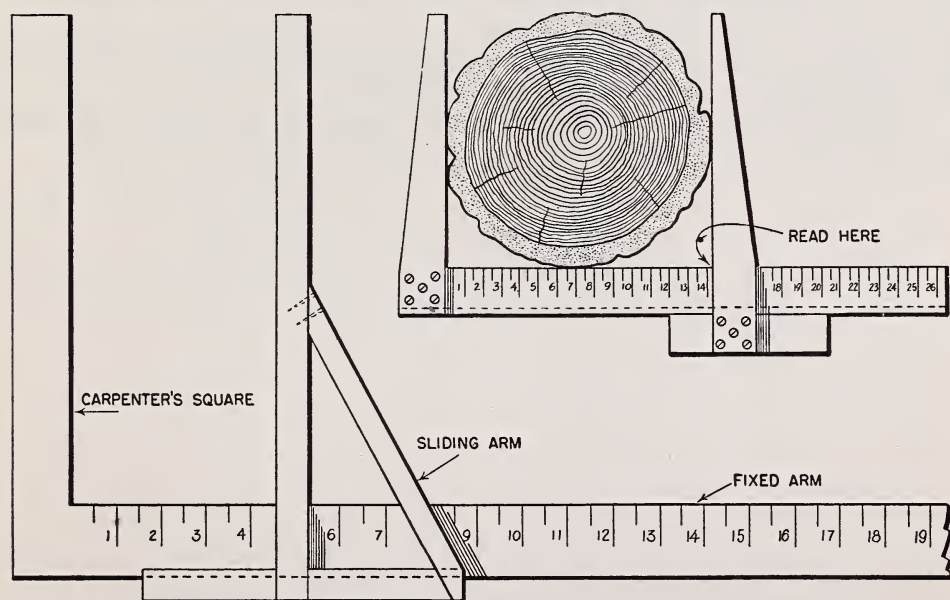

FIGURE 18.—Home-made calipers for measuring the diameters of trees.
1. With a ruler, carpenter's square, or home-made calipers like those in figure 18, find the diameter of the tree in inches, outside the bark, breast high (4½ feet above ground).